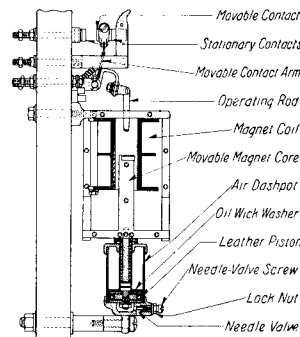

Fig. 14—Sectional View of Type KT Time Limit Accelerating Relay
43. The adjustment of the time element is made by the needle valve in the bottom of the dashpot, as shown in Fig. 14. After loosening the nut, the needle valve screw should be turned to the left to decrease the time element; to the right, to increase it. After making the adjustment the lock nut should be tightened.
45. The contacts, between which the circuit is made and broken, are graphite and have ample current carrying capacity. Should these or any other parts need replacing they can be ordered from any district office. When ordering repair parts specify the name of the part as shown in Fig. 14 and give the information requested on page 12.
47. All parts are similar to the type KT relay and in case repairs are required refer to Fig. 14.